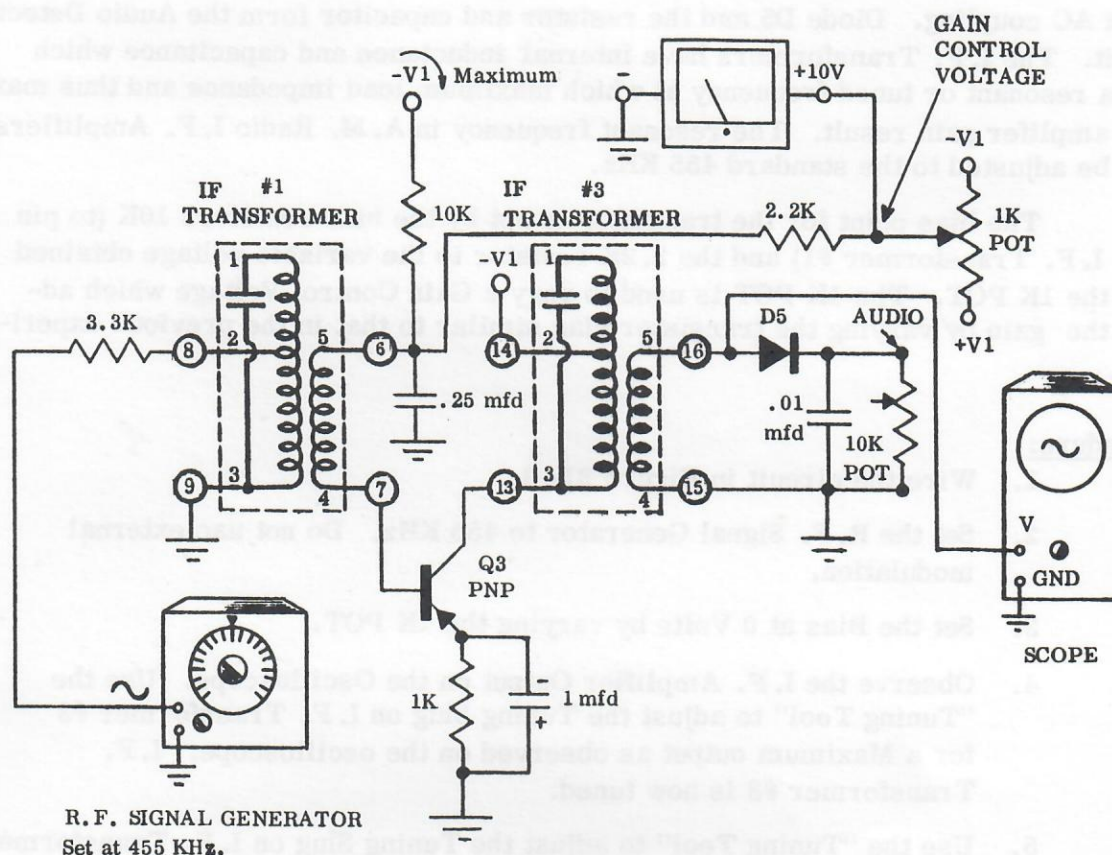

Figure 21-1 TUNED IF AMPLIFIER - EXPERIMENT
1. Wire the circuit in Figure 21-1.